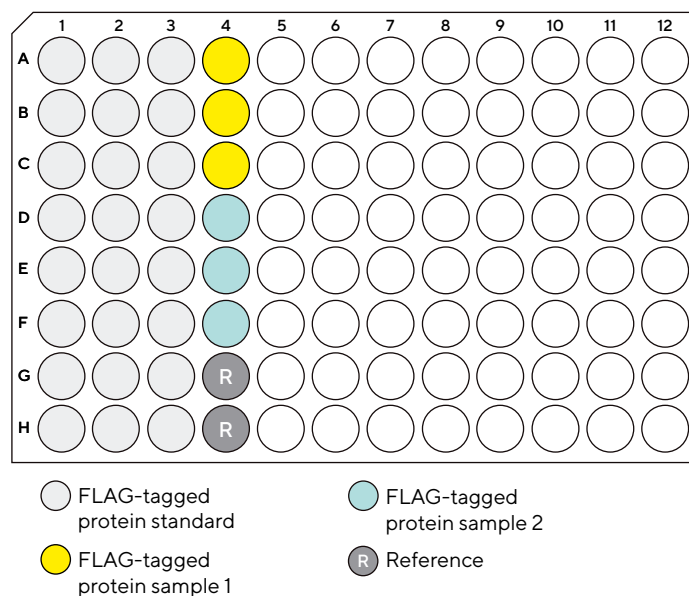

Figure 4. Example plate layout for a spike recovery assay.
3. Transfer triplicates of the prepared standards and the samples and standards to a sample plate. It is recommended to organize samples in columns, from A–H. Fill at least one well with blank diluted matrix for reference subtraction during data analysis. An example plate map is shown in Figure 4.